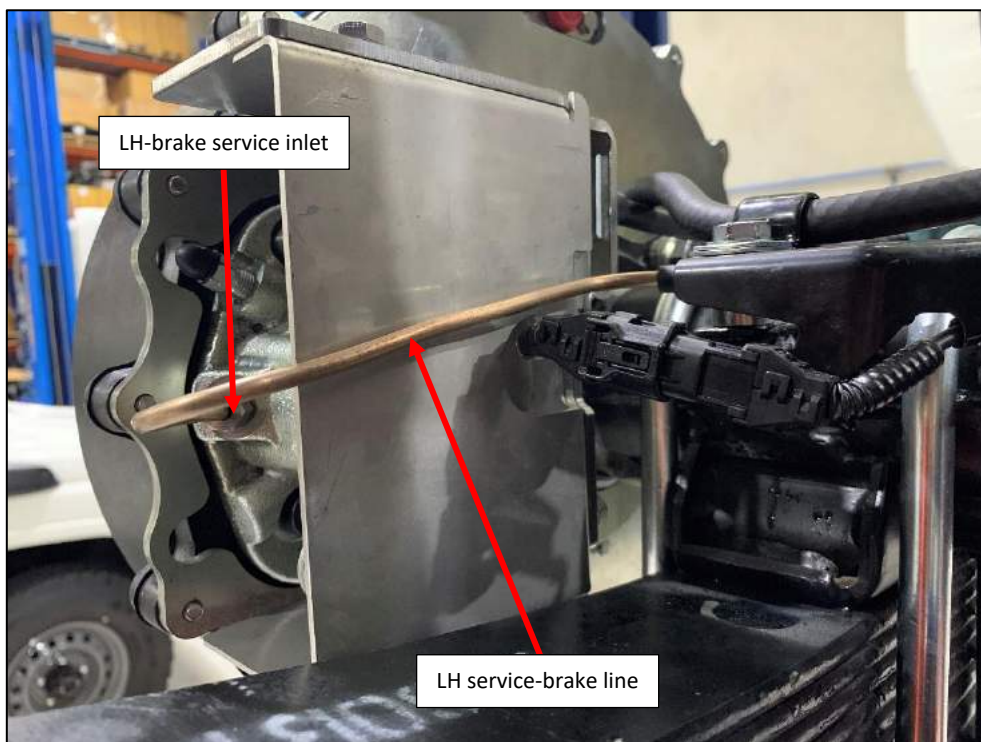

Figure 46
36. Connect the LH service-brake line to the LH-brake feed port (Figure 46).